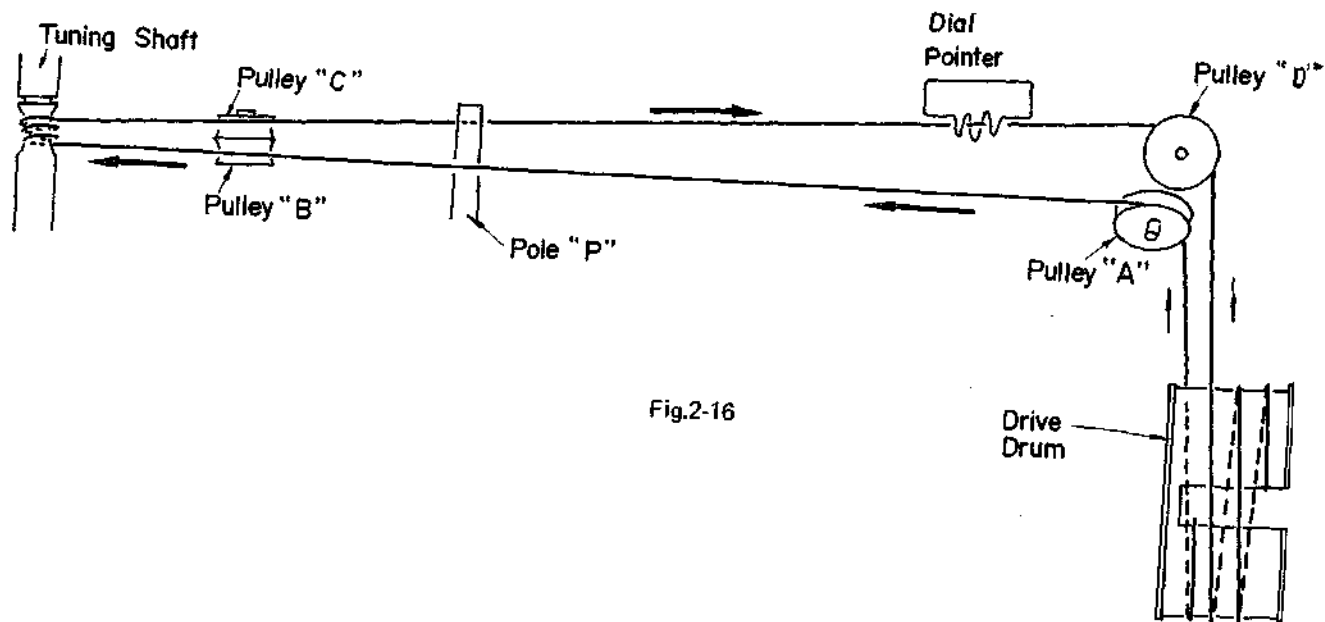

Fig.2-16
- (e) Make half counterclockwise turn around the drum then run the cord cover pulley A and B, passing above the pole "P". See Fig. 2-16.